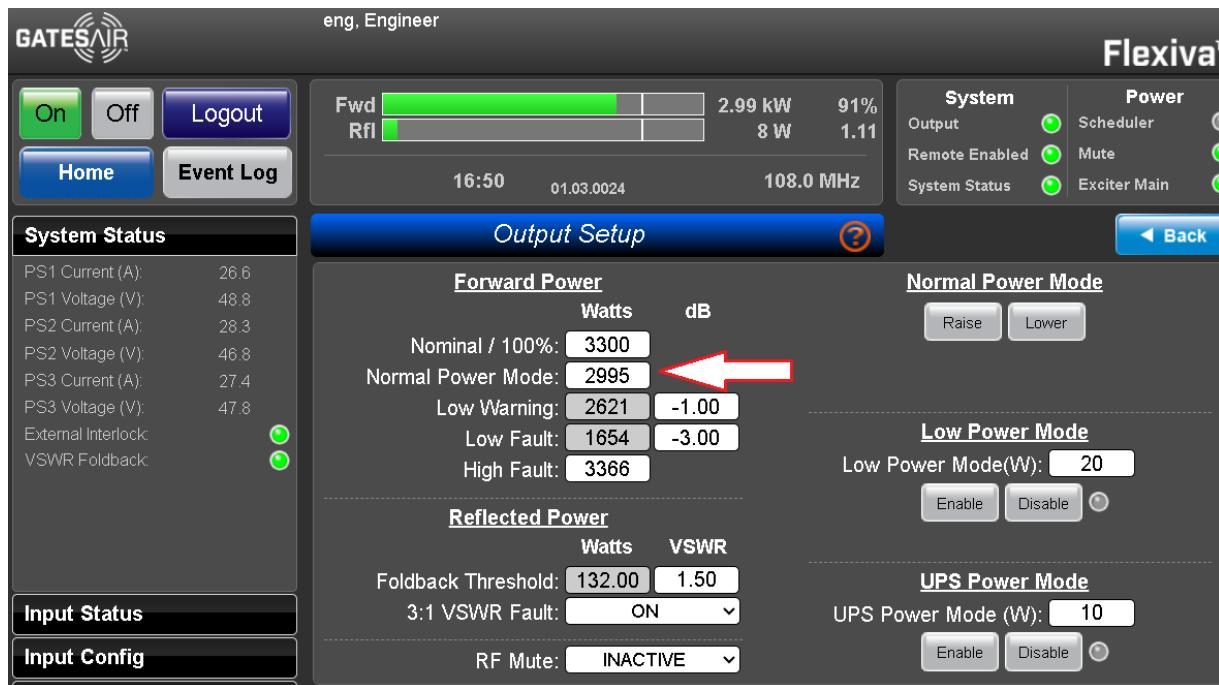

Figure 6-13 Output Setup Screen
STEP 6 Check and reset your power by clicking in the Normal Power Mode field as shown in arrow in Figure 6-13.